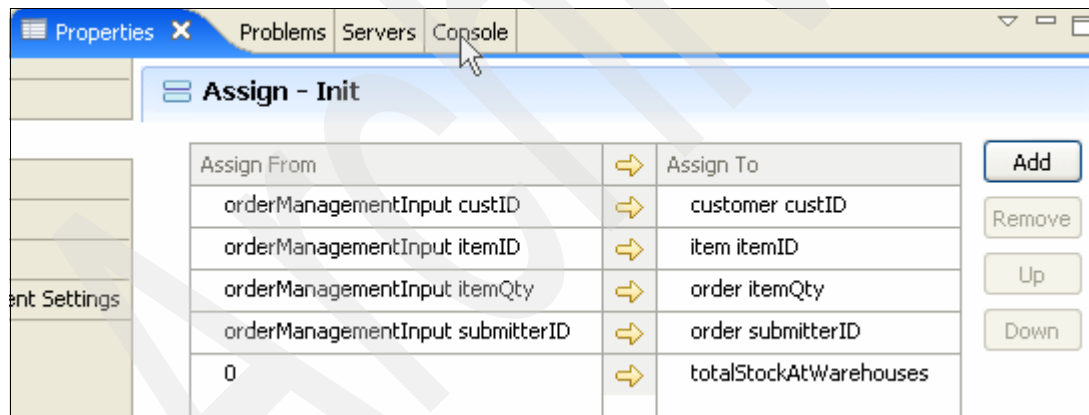

Figure 3-19 Init's properties view
3. In the Properties view, set the Assign From and Assign To fields as depicted in Figure 3-19.